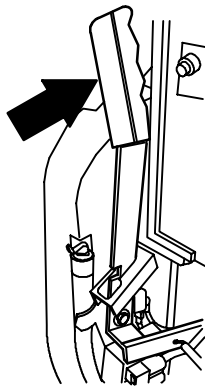

FIG. 24
- Lower squeegee to floor with squeegee lever. This lever will also turn on vacuum system (Figure 24).